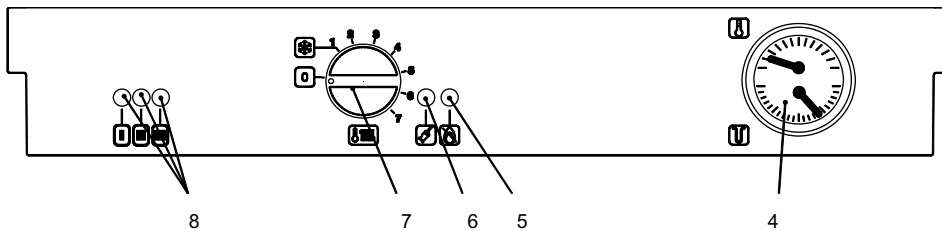
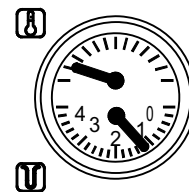

Figure 3.2
Figure 5.1
Three lights (8 in Fig. 3.2) give detailed indication regarding the operation of the boiler. The following table gives the relationship between each of the possible light combinations and their meaning.
- Ensure that the Central Heating circuit is regularly filled with water checking that the pressure indicated on the temperature and pressure gauge (4 on figure 3.2) is not lower than 1 bar (14.5 psi) as shown on figure 5.1.
- The temperature and pressure gauge (Fig. 5.1 on page 11) will allow you to check that the set temperature is obtained.
- You should check that the pressure on the temperature and pressure gauge (Fig. 5.1 on page 11) is not below the correct setting.
If the pressure on the temperature and pressure gauge (Figure 5.1 on page 11) has gone down: